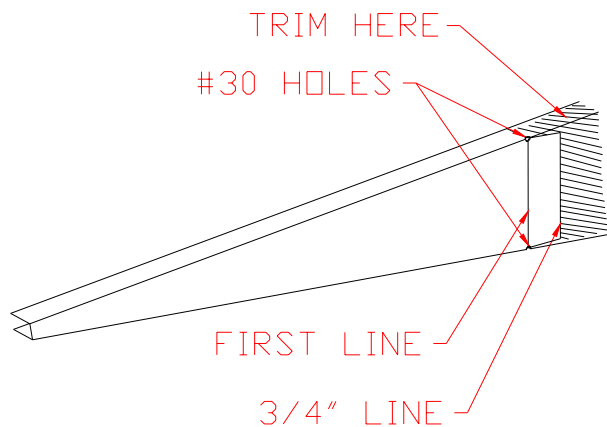

Figure 3.4.6
- 10) Position an Elev/Rud Rib on top of the skin over the 'V' cut out so the trailing edge is parallel with the trailing edge of the other ribs. Mark the rib where it will need to be trimmed to fit against the center doubler. Figure 3.4.6
- 11) Mark a second line  $\frac{3}{4}$ " up from the first. Drill two holes in the corners at the first line. Trim at  $\frac{3}{4}$ " line as in figure 3.4.6.
- 30) Using the same technique as you did in figure 3.4.6., make 90 degree flanges to pick up the trim tab spar. If this is not possible on all the offcuts, use a piece of angle(ST-40) to make the flanges.